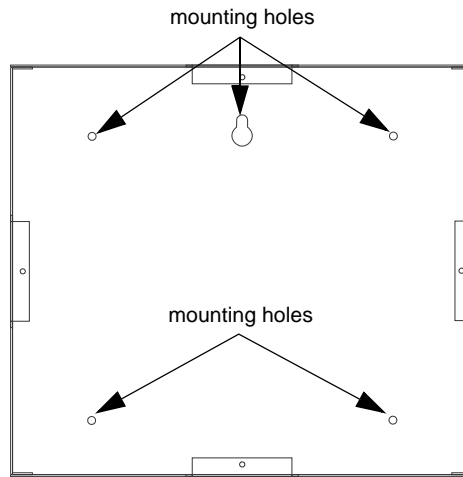

Figure 4.24 6860 Backbox Mounting
2. Mark and pre-drill hole in the wall for the center top keyhole mounting bolt. Refer to Figure 4.24 for mounting hole locations.